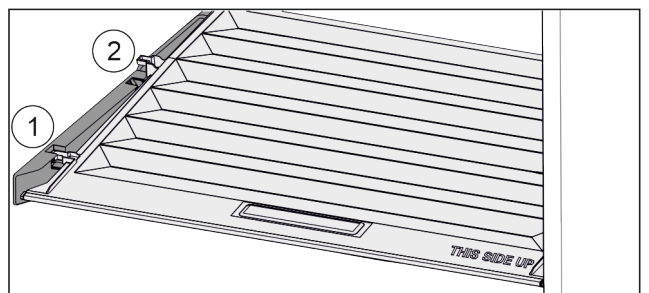

Fig. 33
- Pull the lid up at the front to the opening in the retaining parts Fig. 33 (1).
- Lift from the back and pull it up and out Fig. 33 (2).